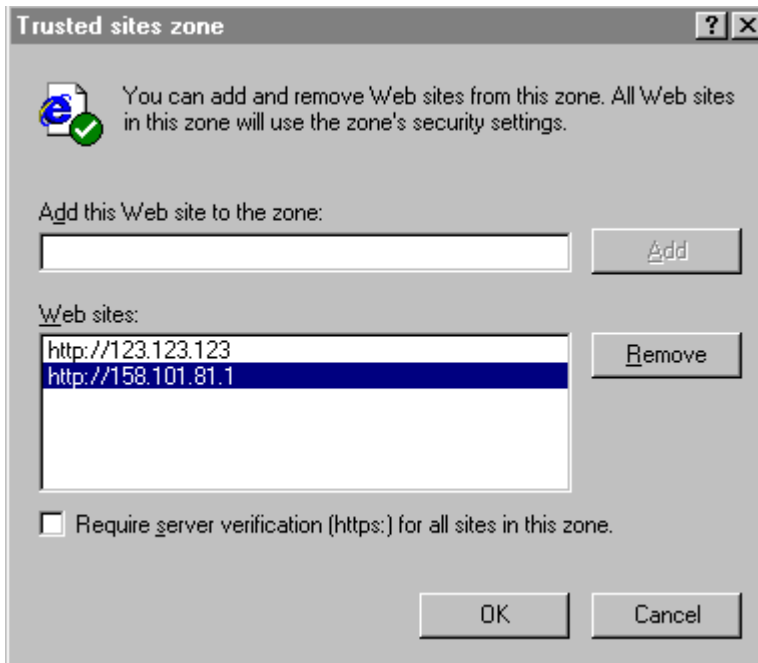

Figure A-11 Trusted Sites Zone Dialog Box
- 6 The Trusted sites zone dialog box appears. See Figure A-11. In the **Add this Web site to the zone** field, type **http://** plus the IP address of the device that you want to manage through Web Management. Example: